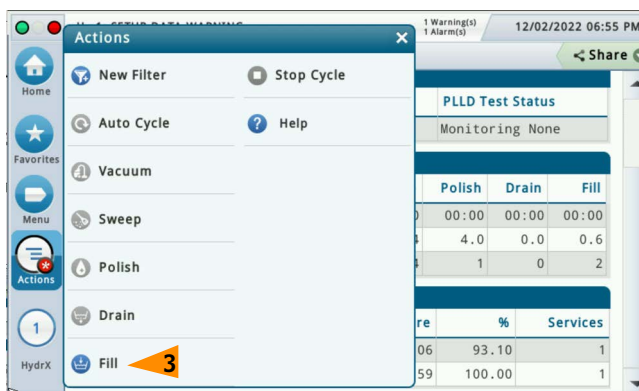

Figure 22. HydrX Diagnostic Service Menu
5. Touch **Fill** (Item 3, Figure 22) to refill the HydrX filter housing with fuel from the tank.